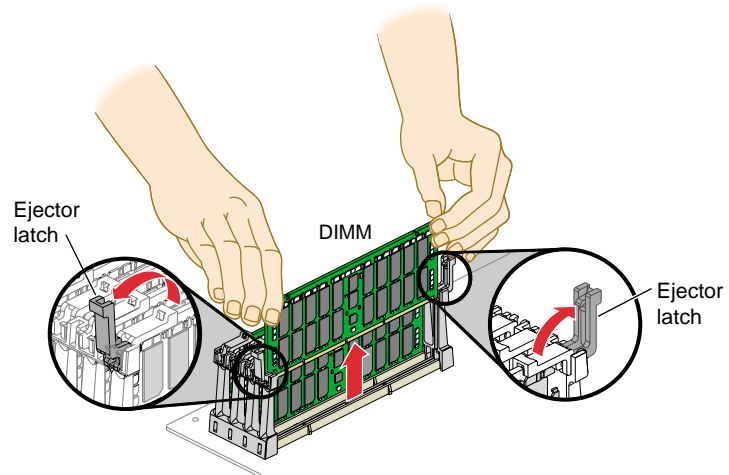

Figure 3-14 Removing a DIMM
6. Remove the DIMM, as follows (refer to Figure 3-14):